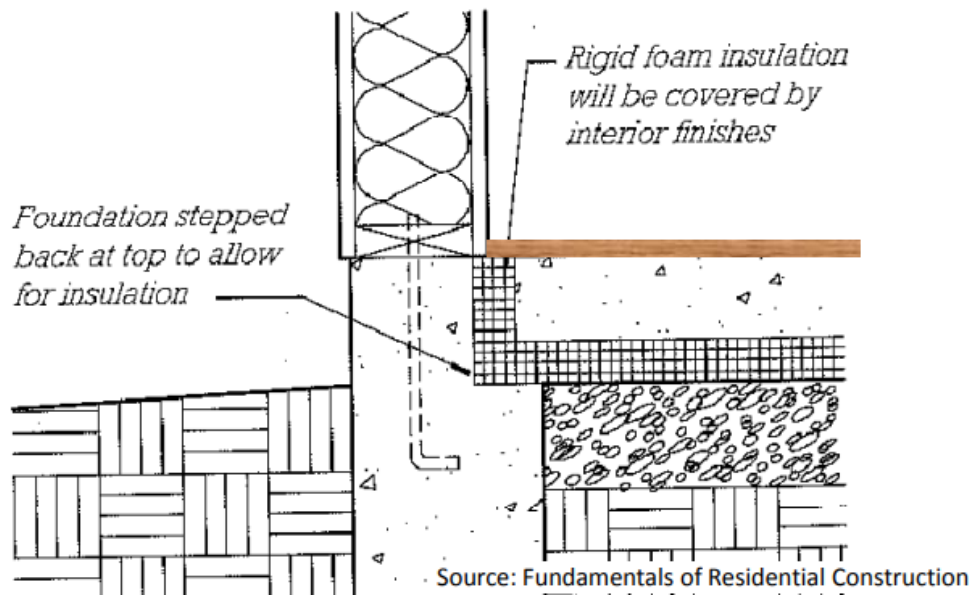

Figure 5 Strategy to avoid a bevel cut in perimeter insulation: cover top edge of insulation with interior flooring. Source: Turns, PHRC
- In cases (a) and (e), a practical consideration is protecting the top edge of the insulation at the edge of the slab on the interior, as well as attaching flooring materials at the edge. WSEC-R allows a maximum 2"x2" pressure-treated nailer to be installed at the finished floor elevation for attachment interior finish materials. Other strategies for protecting the top edge of the insulation are discussed in a following question and are illustrated in Figures 5 to 7 below.
- In case (a), a practical consideration is protecting the top edge of the insulation at the edge of the slab on the interior, as well as attaching flooring materials at the edge. Other strategies for protecting the top edge of the insulation are discussed in a following question and are illustrated in Figures 5 to 7.
Three alternatives to beveling the insulation that do not compromise insulation value at the edge illustrated below in Figure 5 to 7.
In many cases the top of the rigid foam insulation will be covered by interior finishes, as shown in Figure 5. In this case, there is no need to bother with beveling the insulation.